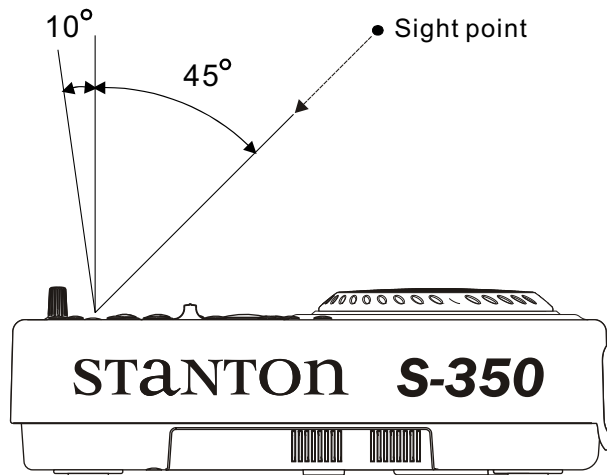

Figure 1
- The unit panel's LCD's are designed to be clearly visible within the angles shown in Figure 1. Place the unit panel so that the visual angle is within this range.